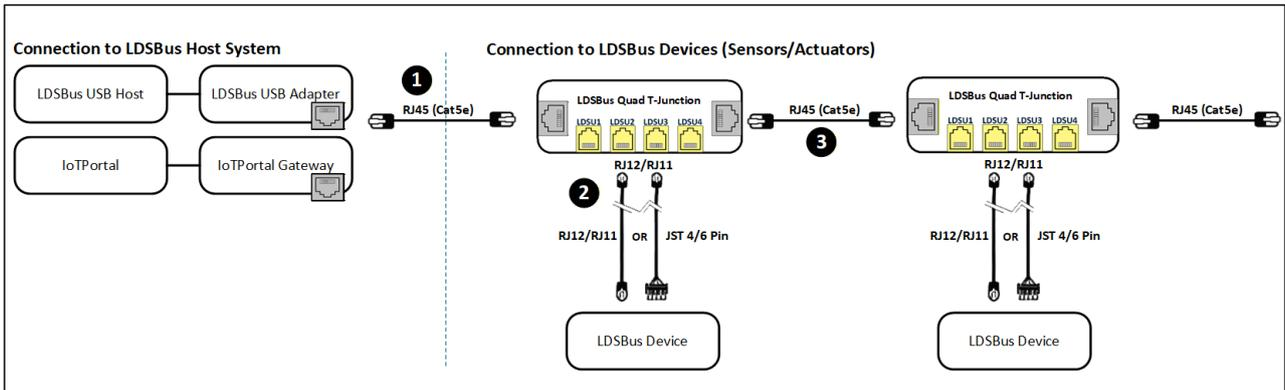

Figure 2 - LDSBus Thermocouple Sensor Adapter - Connection Diagram
Figure 2 illustrates the connection of the LDSBus Thermocouple Sensor Adapter (LDSBus Device) to the LDSBus. Please visit <https://brtsys.com/resources> to view the full device application, setup, and installation guides.
1. Connect the first LDSBus Quad T-Junction to any of the LDSBus Host Systems using the RJ45 (CAT5e) cable as show in Figure 2.
2. Connect the configured LDSBus Thermocouple Sensor Adapter to the LDSBus Quad T-Junction as shown in Figure 2.
3. If there are more than one LDSBus Quad T-Junctions, chain them together as shown in Figure 2.